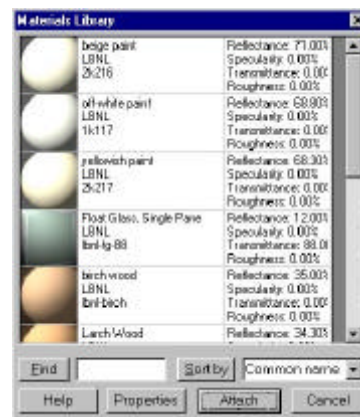

Figure 2. The Materials Library dialog box.
8. The "**Materials Library**" dialog box appears (See Figure 2.) Select blue-gray material, **click ATTACH**.